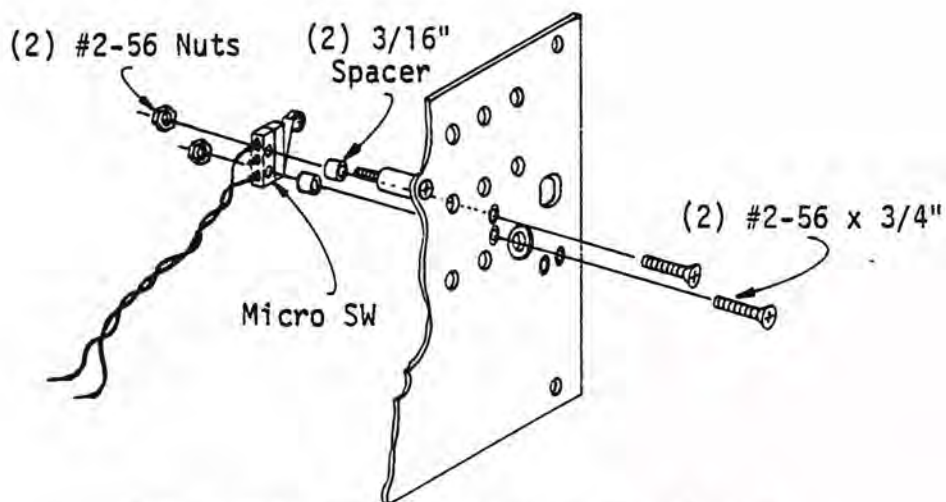

Figure 5-71 Micro Switch B Installation
- b. Follow the same procedure defined in step 1 to install micro switch B. Figure 5-71 specifies the location of this switch.